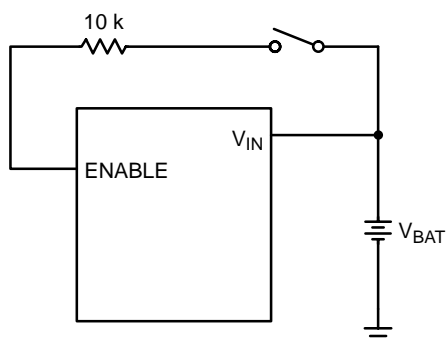

Figure 5. Switched Battery Application
- Option 2 (High Voltage). This option removes the sequencing feature above, and allows the device to be controlled up to the battery voltage on the ENABLE pin with an external resistor (10 k). See Figure 5.